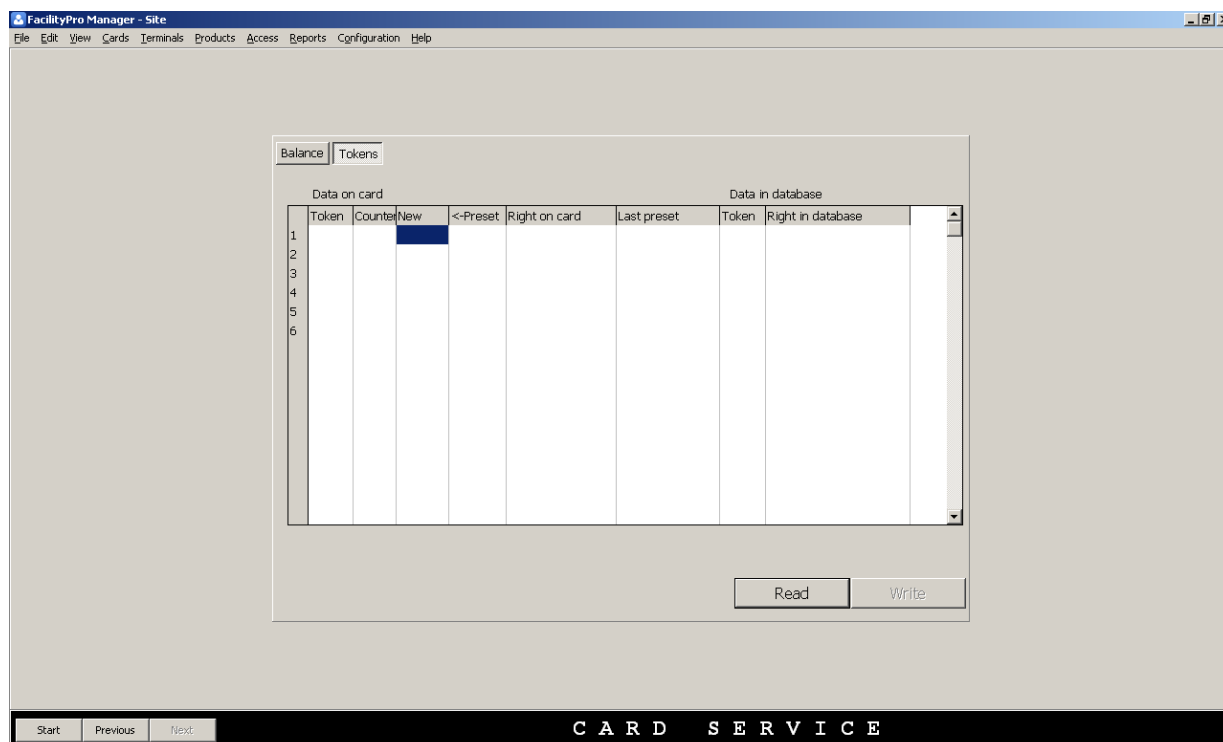

Figure 3-40 The tab 'Tokens' of the card service screen
3. Click the tab 'Tokens'. You will see the tab 'Tokens' (Figure 3-40)